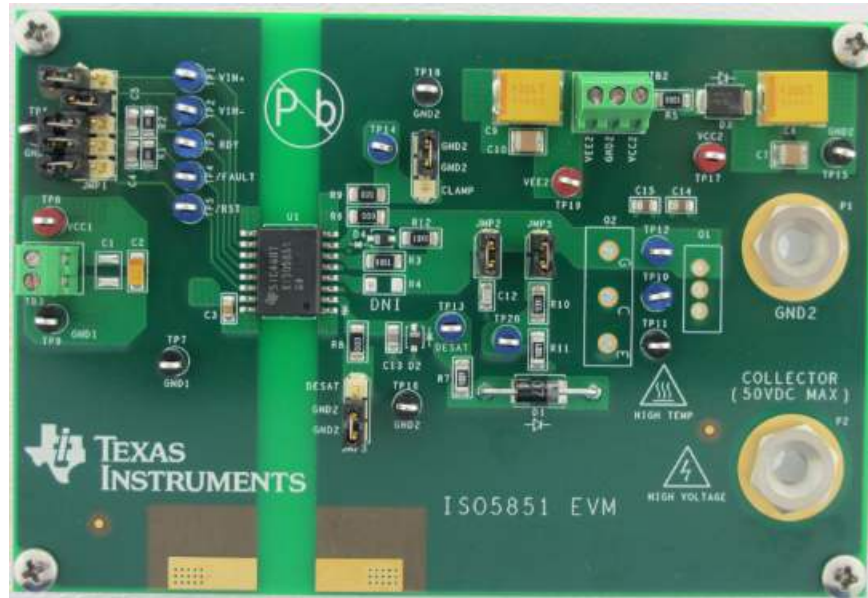

Figure 8. ISO5851 EVM
The ISO5851 is an isolated gate driver with several important features. The printed-circuit board (PCB)/EVM, as shown in Figure 8 ISO5851 EVM, has been designed to support the ISO5851 device and to allow the user to evaluate its basic operation and features. The left side of the PCB contains the interface to the input, control, and status functions of the integrated circuit (IC). The right side of the PCB has been designed to interface to an IGBT. No electrical connections exist between the right and left sides of the PCB.
The following table pertains to the labels on the EVM board (Figure 8):